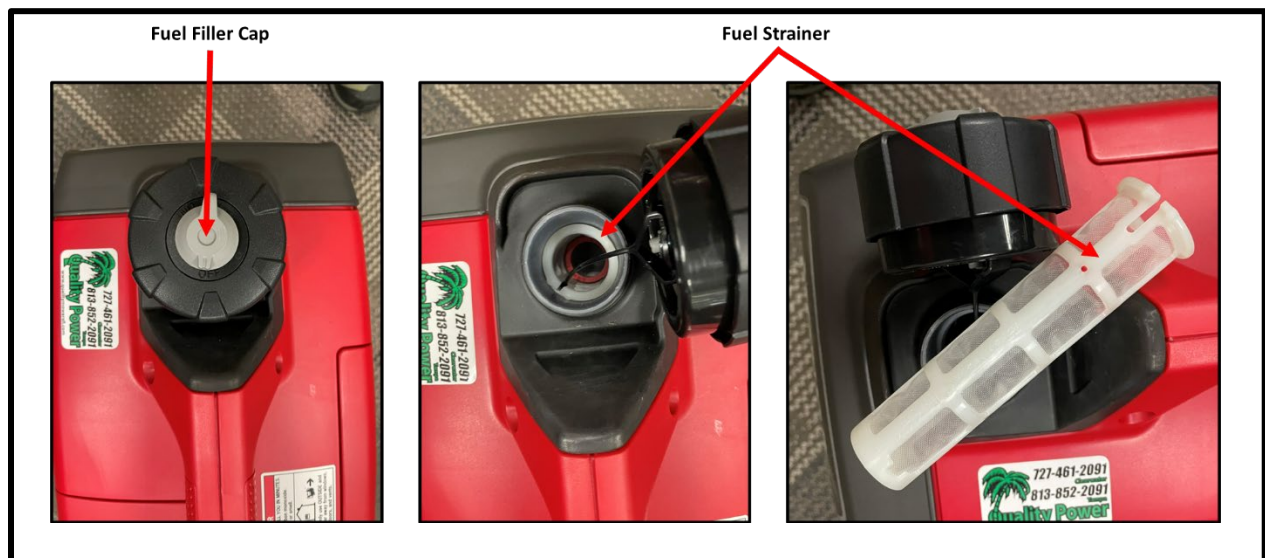

Figure 2. Generator Fuel Filler Cap and Fuel Strainer
4. Remove the fuel strainer. Place the fuel strainer in a clean location where it will not collect dirt or debris. Refer to Figure 2 for fuel strainer location.